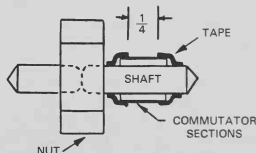
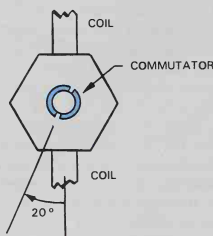

Fig. 18-37. The two commutator sections are fastened to the shaft with plastic tape.
Fig. 18-38. Commutator sections are turned to an angle of about 20 degrees from center line through coils.
5. The threaded portion of each bolt is now wrapped with a layer of plastic tape for insulation and appearance. The commutator sections are made by sawing a piece of  $1/4$  in. copper tubing lengthwise. The two copper pieces are placed over the longer side of the armature shaft. If the fit is not tight, build up the shaft with another layer of tape. Solder neatly each of the two wires coming from the armature coils to a commutator section. Secure the sections in place by wrapping the ends with tape. Be sure that a space remains between the sections. About one quarter inch should be left untaped in the center, so that brushes may make contact with the commutator. See Fig. 18-37. Important: The placement of the commutator sections in relation to the coils must be correct. See Fig. 18-38.